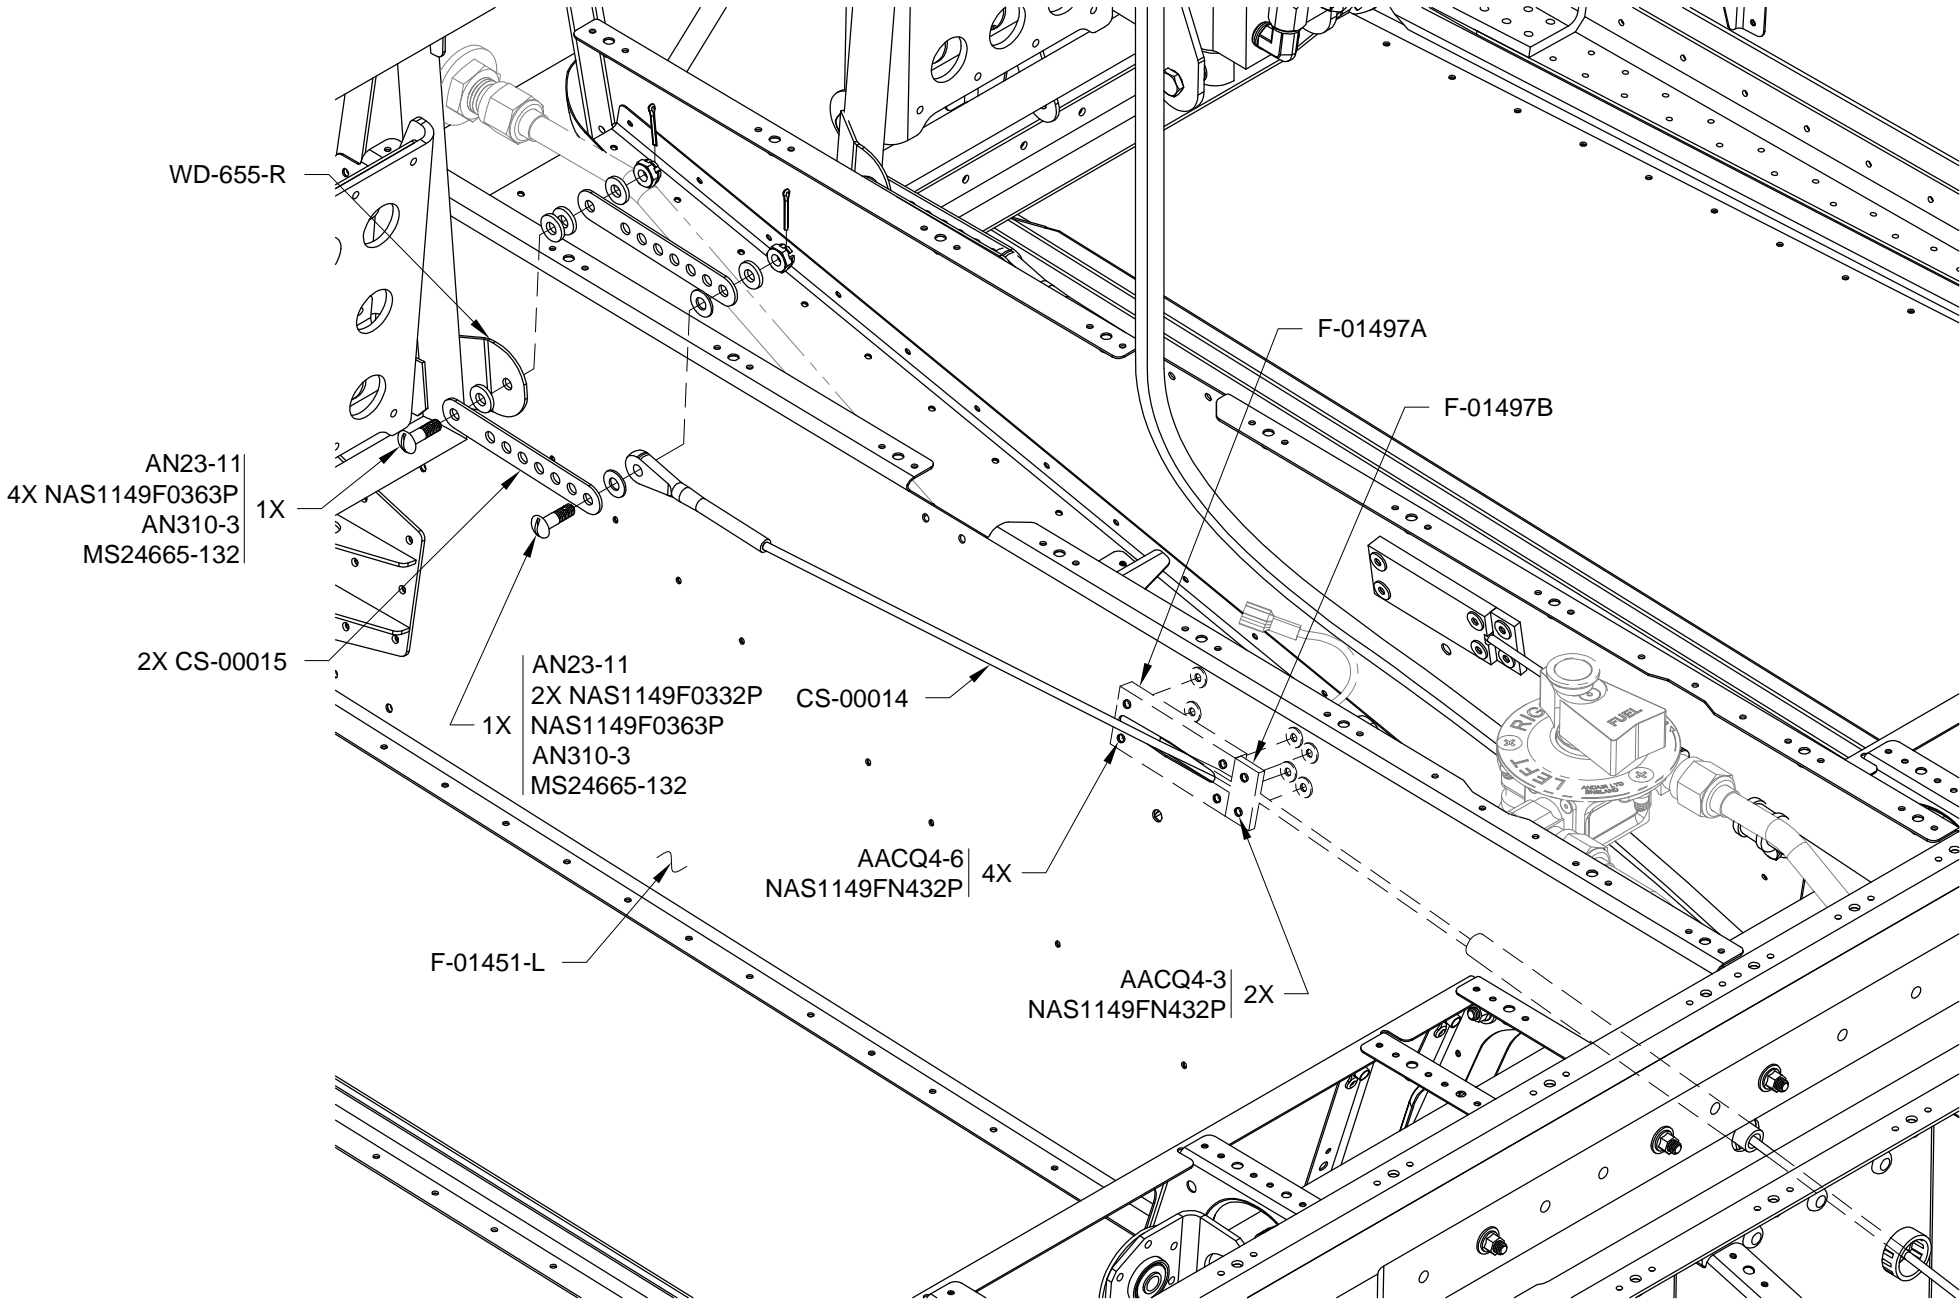

FIGURE 2: CONNECT RUDDER CABLES
NOTE: Figure 2 depicts the CS-00014 Rudder Cables attached to the aft-most holes in the CS-00015 Cable Links for reference only. Seven holes are available, adjust as necessary to account for rudder pedal position.
Step 4: Attach the two CS-00014 Rudder Cables to the CS-00015 Cable Links as shown in Figure 2.
Step 5: Attach the cable links to the WD-655-L & -R Rudder Pedals as shown in Figure 2.
Step 8: Rivet the F-01497A & B Cable Guides inboard to the F-01451-L & -R Tunnel Sides such that the rudder cables are captured between the cable guides. Place a washer between the cable guides and the end of each rivet before setting the rivet. See Figure 2.